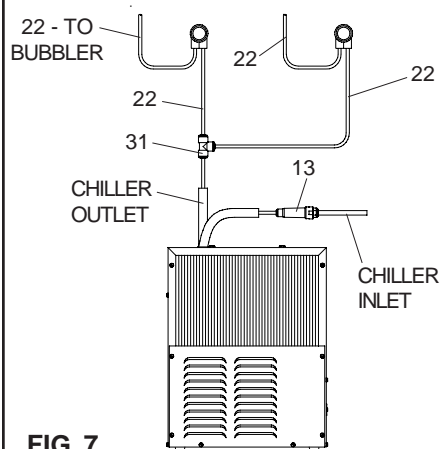

FIG. 7
3. **ERFP MODELS:** Make connection between remote chiller and building supply line. Inlet port is marked on the chiller (1/4" O.D. copper tube). Bend the copper tube (provided) at an appropriate length from chiller to opening in frame. Install the in-line strainer (provided with chiller) by pushing it in until it reaches a positive stop, approximately 3/4" (19mm) on the marked chiller inlet port. Connect building supply line to strainer. **DO NOT SOLDER TUBES INSERTED INTO THE STRAINER AS DAMAGE TO THE O-RINGS MAY RESULT.** (See Figures 7 or 13).
7. **ERFP MODELS:** Make connections between remote chiller outlet tube and fountains. Outlet port is marked on the chiller (1/4" O.D. copper tube). Install a 1/4" tee (provided) on the marked chiller outlet port. Insert the 1/4" poly tubing coming from the fountains into the tee. Turn on water supply and check for leaks. **DO NOT SOLDER TUBES INSERTED INTO THE TEE AS DAMAGE TO THE O-RINGS MAY RESULT.** (See Figures 7 or 13).